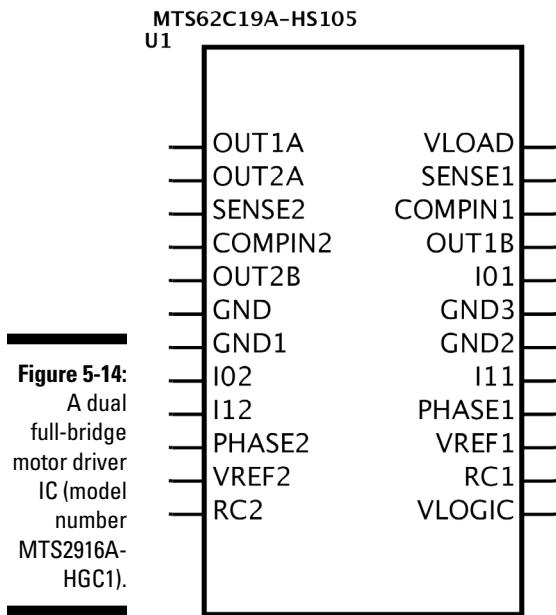

Figure 5-14:
You can combine electrical components in a million ways to achieve different results. At their core, your calculator, your car, your computer, and your BeagleBone all boil down to the same thing: a great many transistors along with some resistors, capacitors, and whatever other basic components they need. In that sense, integrated circuit (IC) chips appeared on the scene to simplify matters. An integrated circuit is a fully functioning circuit inside a small plate of (normally) silicon. It can feature up to several billion transistors along with other components while being the size of your fingernail. Figure 5-14 shows just one example.